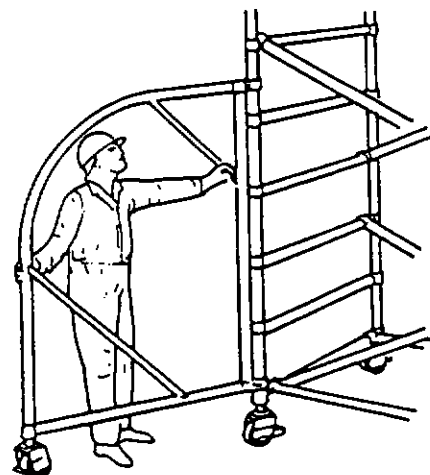

Figure 24
- a. Insert a CA6 castor assembly into the outrigger as shown in Fig. 5. Fit the outrigger to the corner post of the base section (Fig. 24)